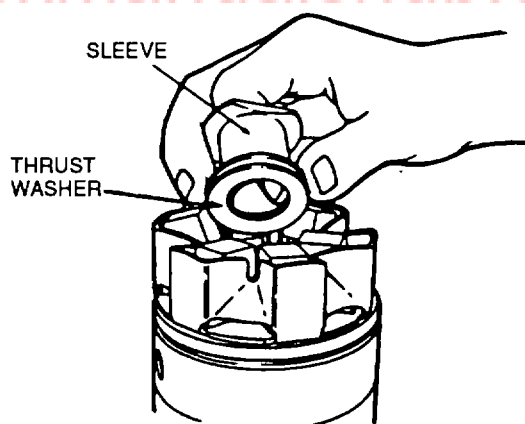

FIGURE 3-96. Installing Thrust Washer and Sleeve
- am. Insert governor thrust washer (20, FIGURE 3-73) and sleeve (19) into lower slots of weights (18) by tilting weights outward slightly, refer to FIGURE 3-96.